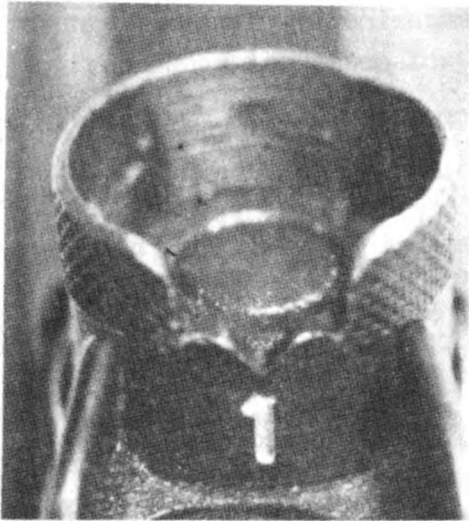

Figure 1
(1) The "L" type rear sight is graduated for 200 and 300 meters. Flip the sight to the specified range.
(2) The drum type rear sight has a 100-meter "V" notch plus 200-, 300-, and 400-meter apertures. Turn the drum sight to the specified range. (See fig. 1)